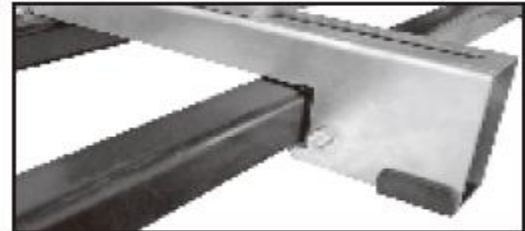
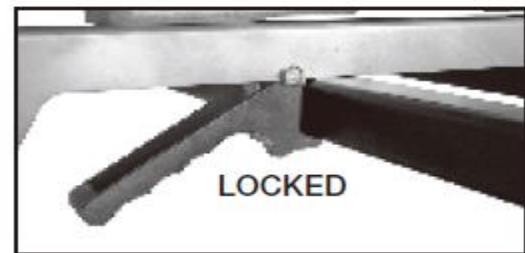

Figure 7
Figure 8
10. Carefully lift the saw and place onto the mitre saw stand. Be sure the hook end of the machine mount locks under the top tube as shown in figure 7. The spring-loaded handle should lock under the opposite top tube as shown in figure 8.